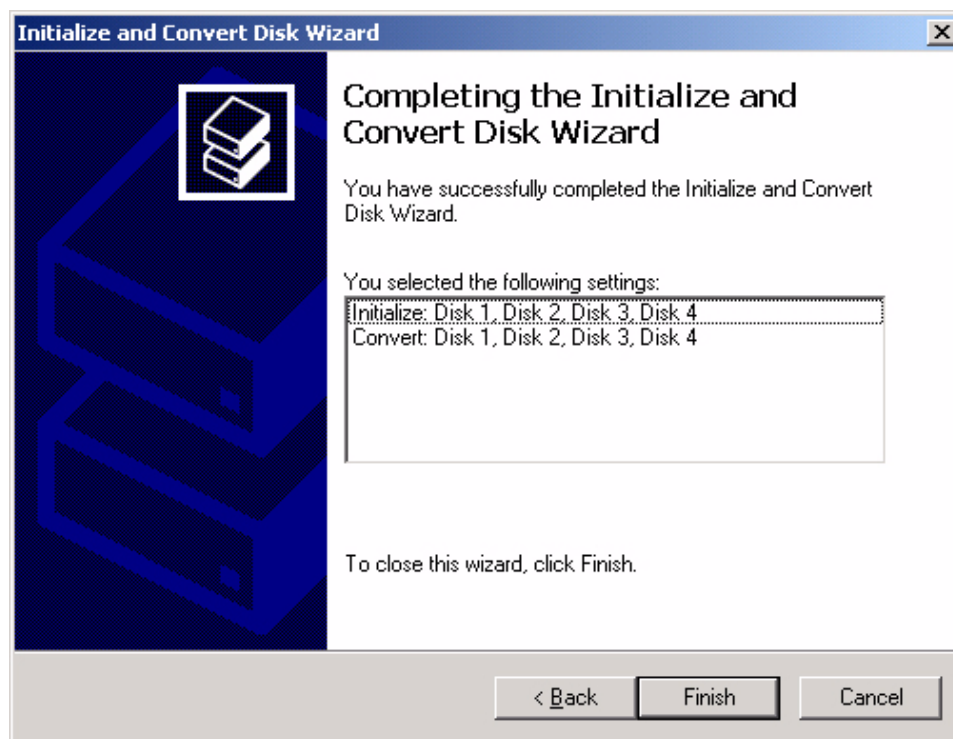

FIGURE 6-19. Initialize and Convert Disk Wizard - Completing the Initialize and Convert Disk Wizard Screen.
6. When the *Initialize and Convert Disk Wizard - Completing the Initialize and Convert Disk Wizard* screen appears, review the information. If it is OK, click **FINISH**. See Figure 6-19.